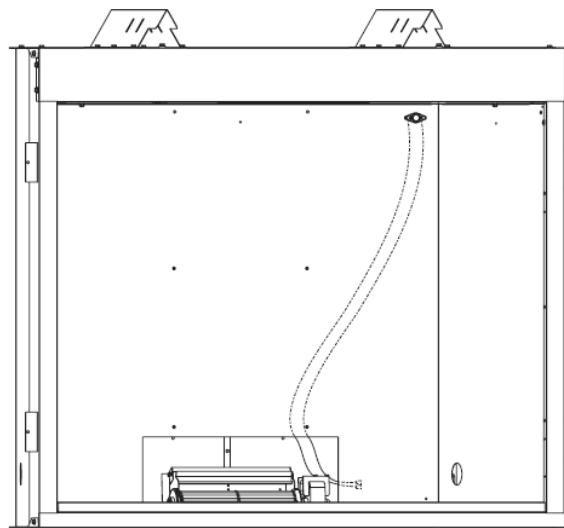

Figure 16
6. Next, find the fan control switch and wire assembly. Feed the wires through the hole at the top of the firebox, and secure the fan control switch with (2) #6 screws provided. See Figure 16.
7. The fan control wires will slide down between the firebox and outer wrap near the blower assembly. See Figure 16.